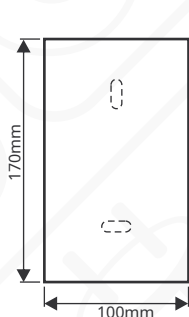

Fig. 7
1. A hole with dimensions of 170x100x40 mm should be punched or cut out in the wall for the plastic box, as shown in Fig. 7. The position of the hole should be selected so that after mounting the external module, the loudspeaker and microphone are at a height that allows free conversation with a person inside the room.